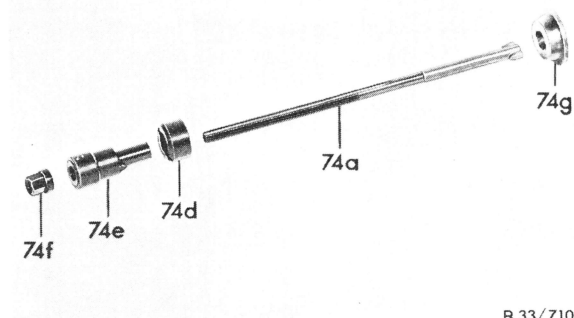

Fig. 1
If, for example when working on the lifting platform, the lower control arm cannot be supported, secure by inserting spring tensioner (74) (Figs. 1 and 2).